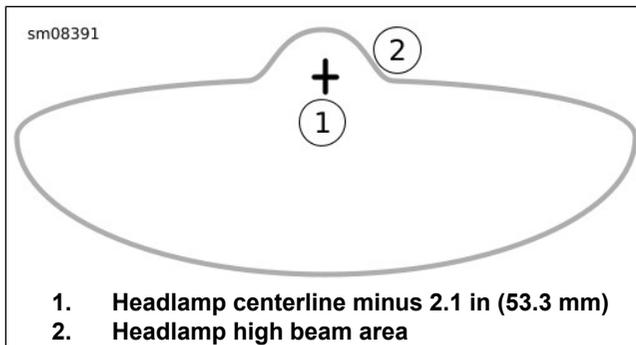

Figure 100. Headlamp Pattern: Frame-Mounted Fairing Models
- b. See Figure 100. Adjust headlamp light beam.